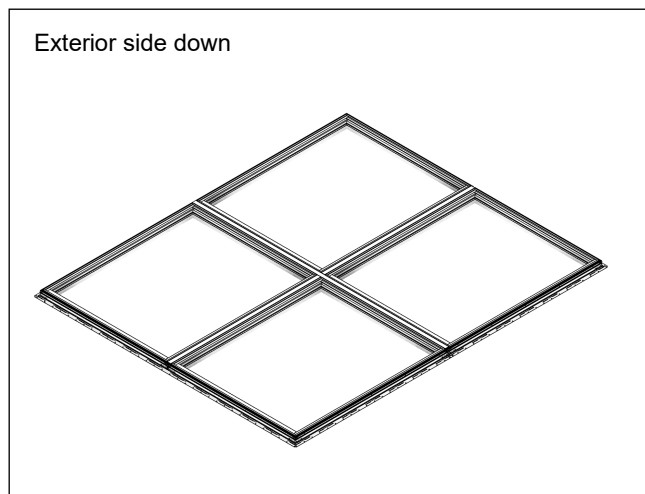

Figure 11
1. Set up assembly area (clean flat area) setting the units exterior down to begin. Inspect units for any damage. Set one or all units, if room allows, of the factory assemblies exterior side down. See Figure 11.